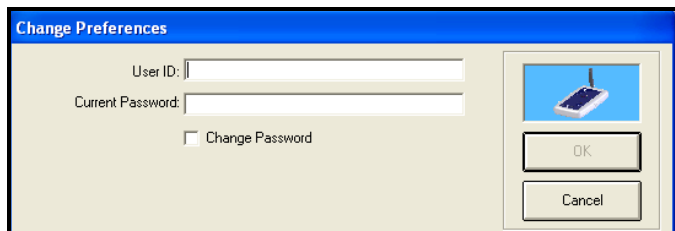

Figure 2-10: Change Preferences Dialog Box
1. On the Kaye RF ValProbe Main Menu, click the Preferences tab. The Change Preferences (Figure 2-10 below) dialog box appears.